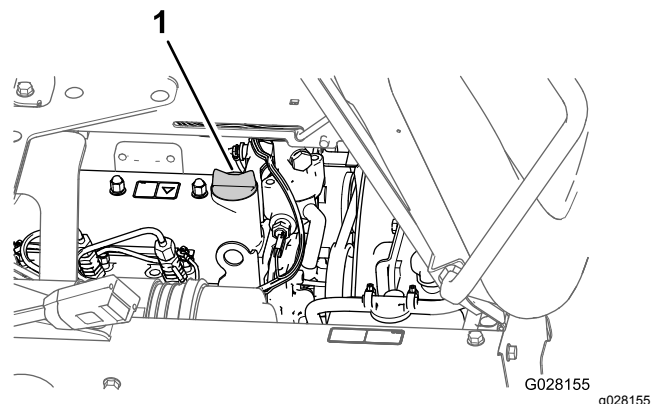

Figure 71
5. Remove the oil-filler cap from the filler neck of the valve cover of the engine and slowly pour approximately 80% of the specified amount of oil into the filler neck (Figure 71).
8. Install the oil-filler cap into the filler neck (Figure 71).